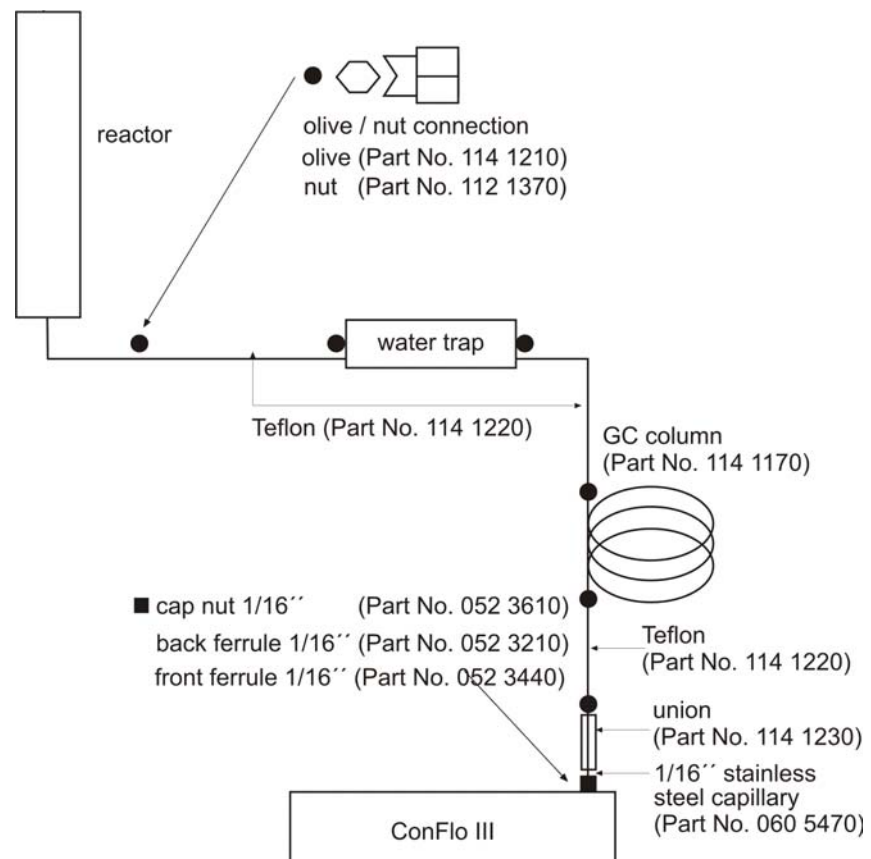

Figure 7-2. Installing the Teflon Tubing
*For additional part numbers (e.g. of nuts) see **Installing the Teflon Tubing** on page 7-6 and especially Figure 7-2.
4. Replace all stainless steel tubing with Teflon tubing as shown in Figure 7-2.